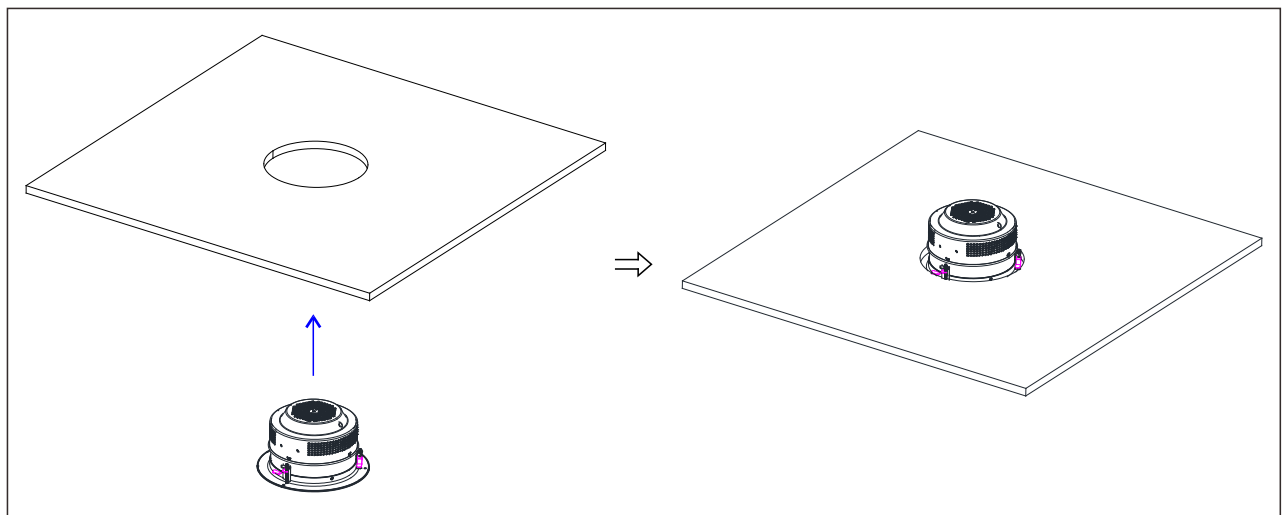

fig.3
2. Push the luminaire from the bottom to the ceiling to be flush with the ceiling surfacing (fig.3).